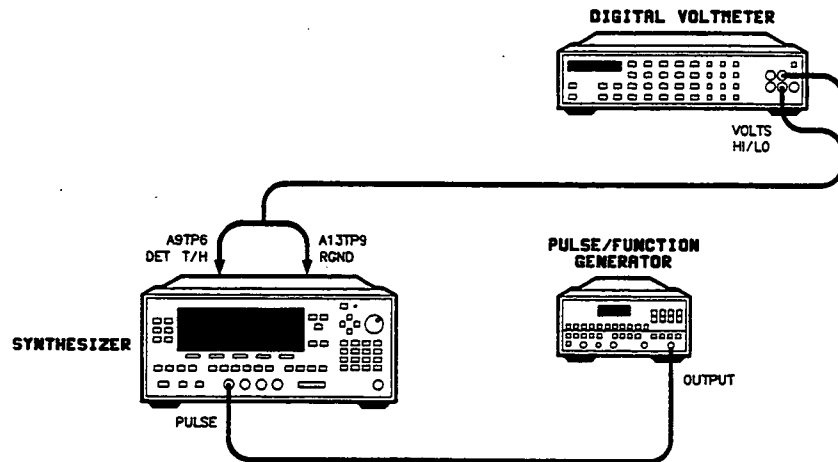

Figure 3-35. Pulse Delay Adjustment Setup
1. Preset the equipment shown in figure 3-35 and let them warm up for at least one hour.
3. Connect the equipment as shown in figure 3-35.